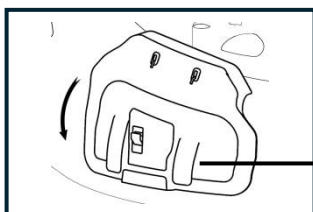

FIG 9D
7.3.2 On models with a side discharge, ensure that the side discharge guard is lowered and securely blocked by the safety lever, as shown in Figure 9D.